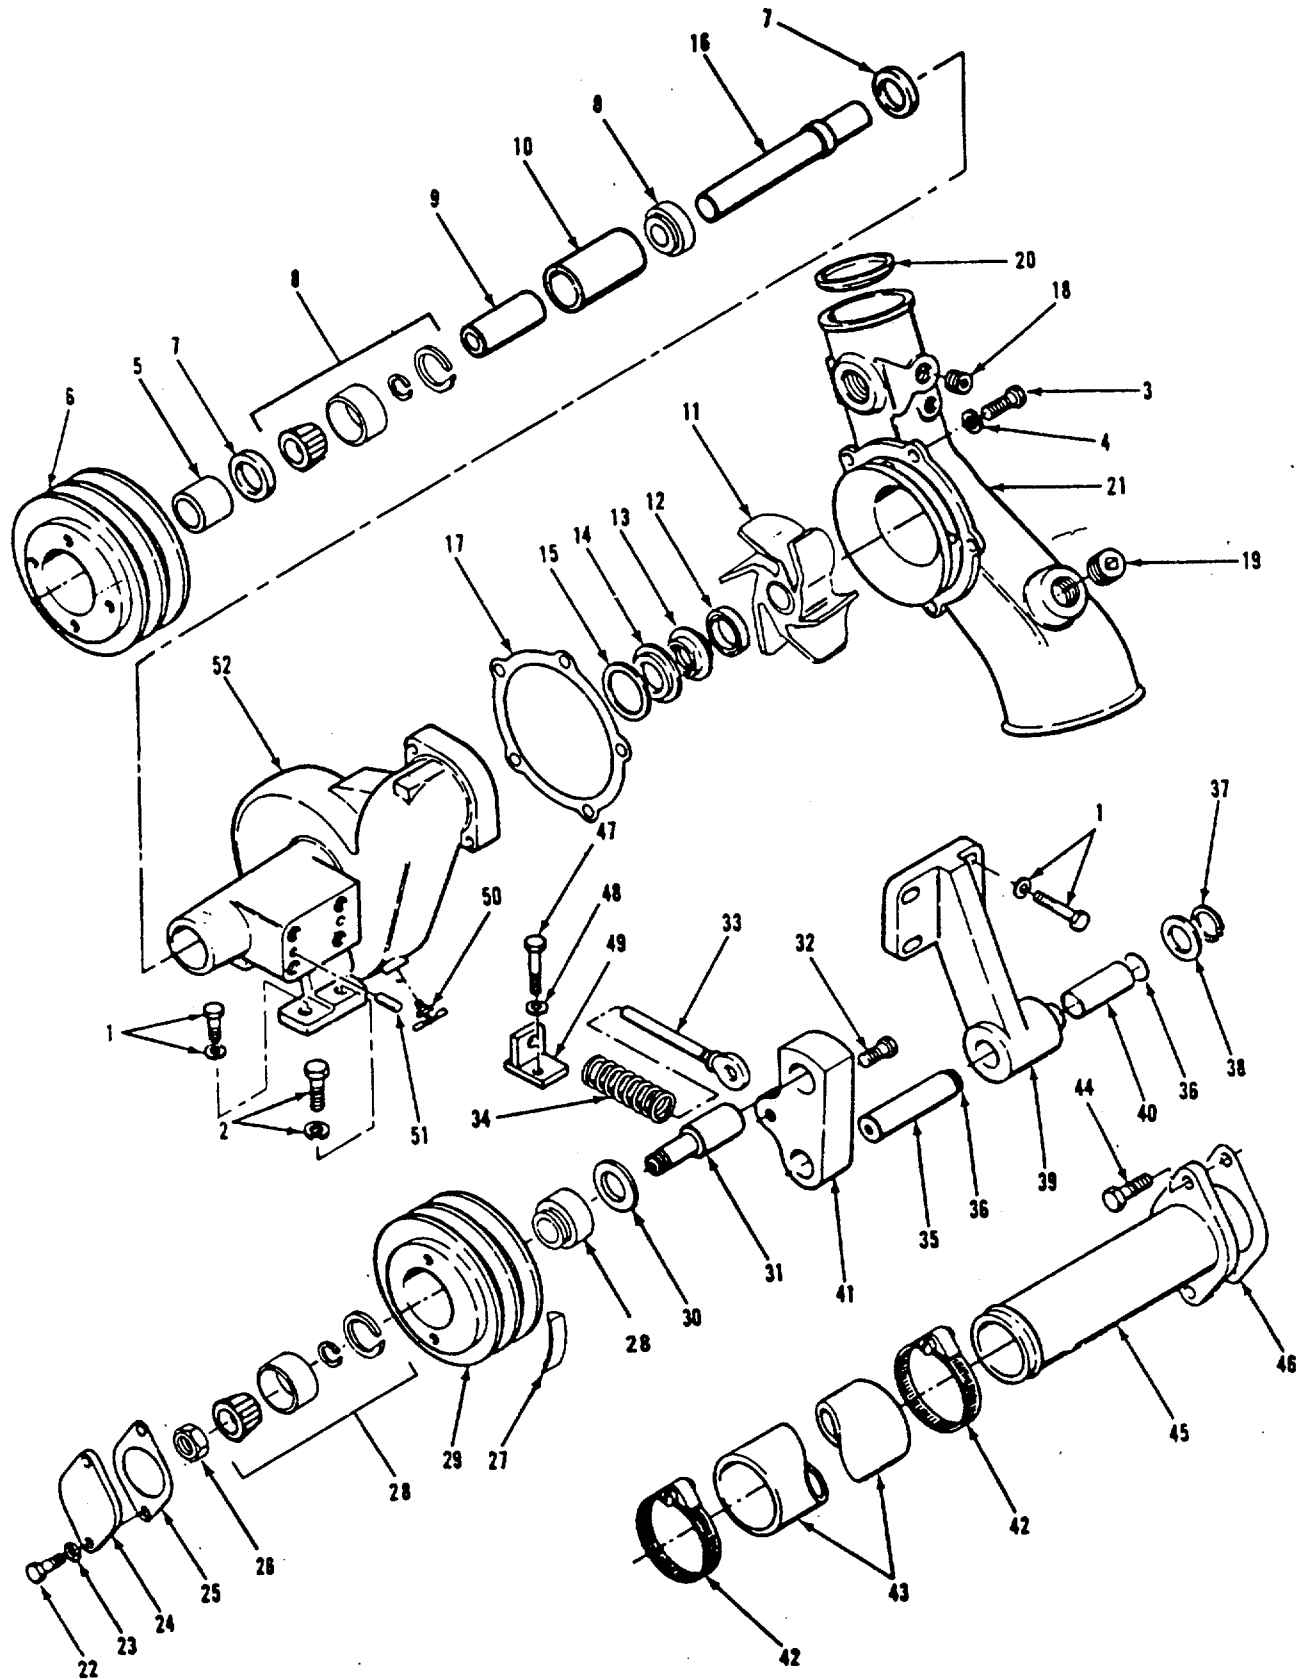

Figure 13-30. Water Pump with Idler Assembly
(1) Disassembly. Prior to disassembly, remove the water pump and idler assembly in accordance with the Operator/Crew and Organizational manual. Refer to figure 13-30.
LEGEND FOR FIGURE 13-30
- (d) Inspect spring locator rod (33) and spring (34) for visible signs of damage or wear. Replace as necessary.
- (3) Reassemble the water pump and idler assembly (install replacement parts as necessary) with new gasket (17), Figure 13-30. Water Pump with Idler Assembly oil seal (7) and bracket bushing (40) as follows:
- (a) Install large retaining ring from bearing assembly in retaining groove inside the front of the water pump body (52).
- (c) Insert bearing cup spacer (9) from the rear of the pump body (52).
- (d) Install the other bearing race into the rear of the pump body. Seat race on spacer (9) using a mandrel.